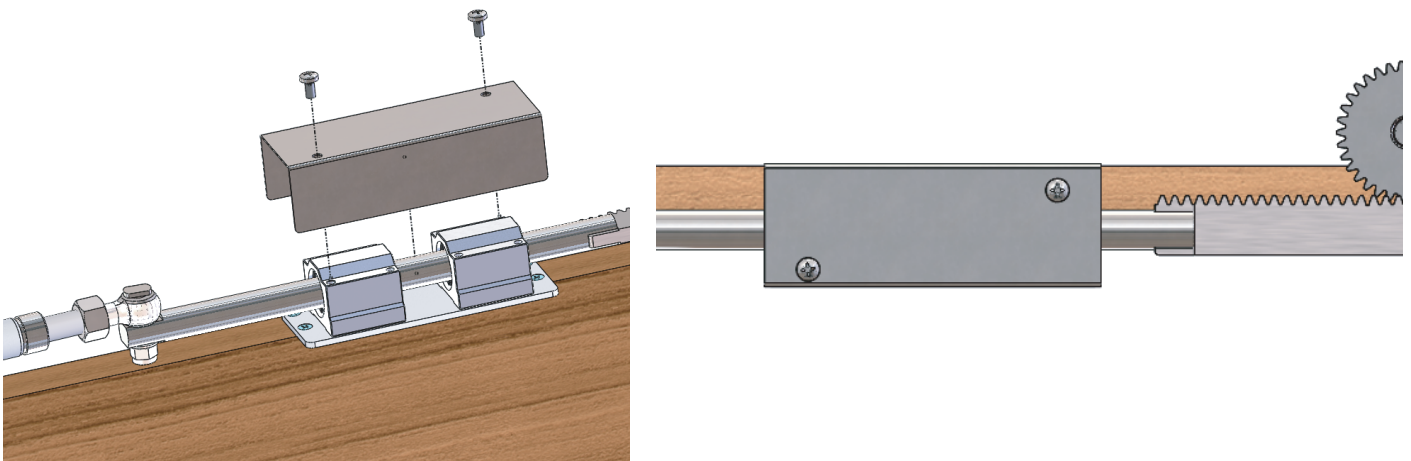

Fig 16
15. After adjusting the angle of door open and close, finally install the protective cover on the fixing base as Fig 16.